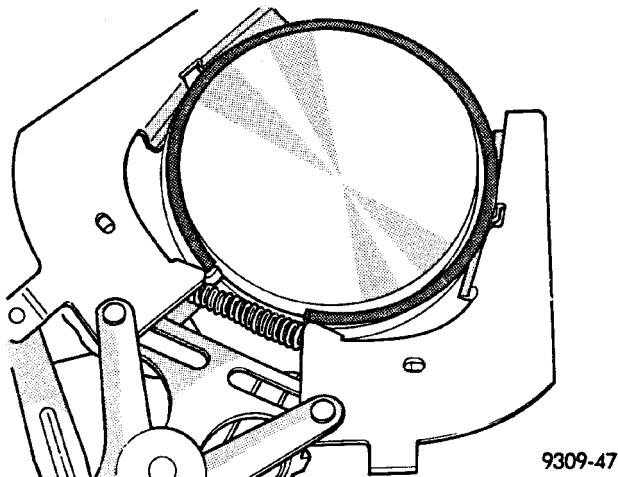

Fig. 92 UPPER AND INTERMEDIATE RINGS
(1) Remove piston and connecting rod. (Refer to 9 - ENGINE/ENGINE BLOCK/PISTON & CONNECTING ROD - REMOVAL)
(2) Remove No. 1 and No. 2 piston rings from piston using a ring expander tool (Fig. 92).
(5) Install No. 2 piston ring and then No. 1 piston ring (Fig. 92).